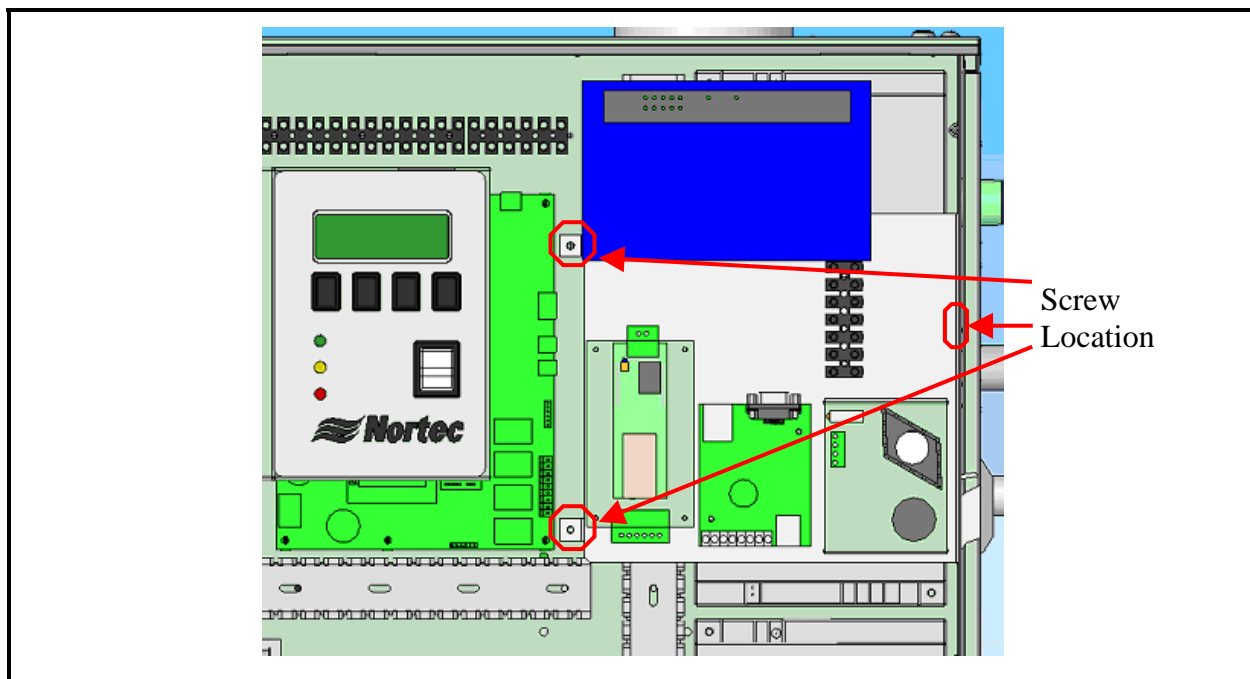

Figure 2. LINKS 2 Bracket Placement
- (1) Refer to Figure 2 for the mounting location of the Nortec LINKS 2 Bracket on the GS or SE unit. If pilot holes for the mounting screws are not already present on the humidifier frame follow steps 2 and 3. If pilot holes are present then disregard steps 2 and 3.
- (2) Using the bracket assembly as a template, mark locations of pilot holes on the GS/SE humidifier frame.
- (3) Using 1/8" drill bit, drill pilot holes for the bracket mounting screws.
- (4) Install the bracket assembly using 8-32x 1/2" hex-drive screws. Be sure to route the power wires for the I/O Controller-E module through the cutout on the upper right-hand corner of the bracket, as illustrated in the following figure. After running wires behind bracket, route the power leads into the main wire track.